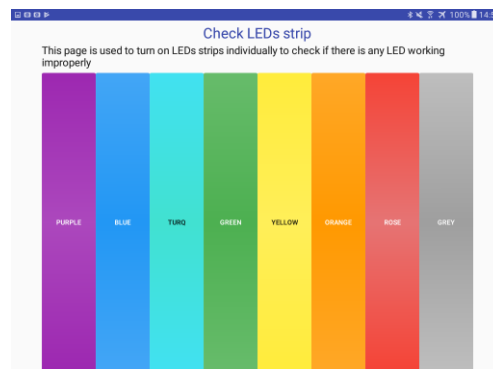

FIG 21
- LED, s can be tested by clicking on the Test LED option on the side bar and tapping each of the individual colour strips. (FIG 21) If any colour does not show, please contact Cerium Visual Technologies.